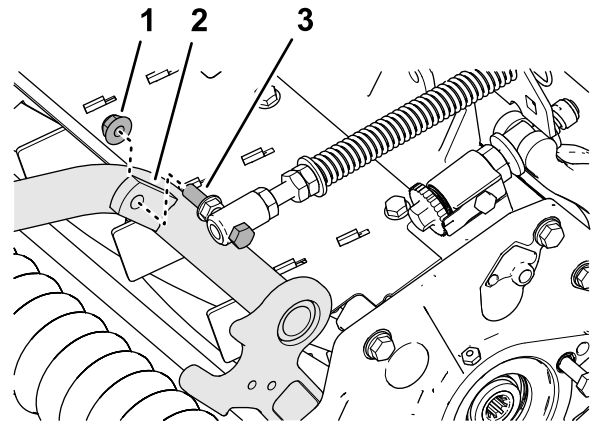

Figure 20
4. Assemble the capscrew of the turf compensation spring to the right tab of the carrier frame (Figure 20) with the flange locknut (3/8 inch).